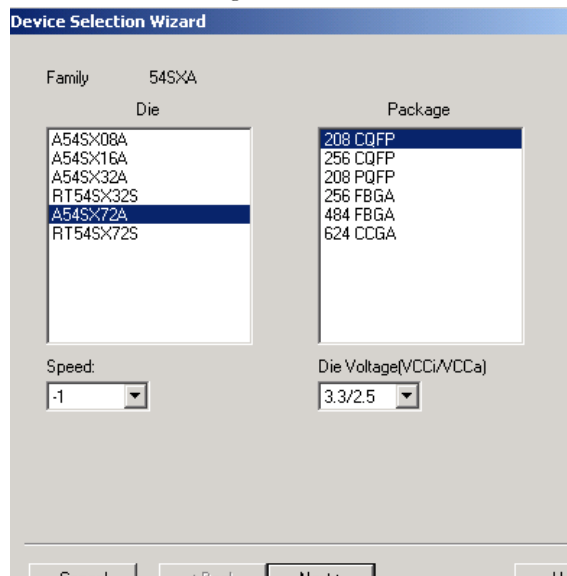

Figure 2-17. Device Selection Dialog Box
1. **In the Tools menu, click *Device Selection*.** The Device Selection Wizard starts, as shown in Figure 2-17.